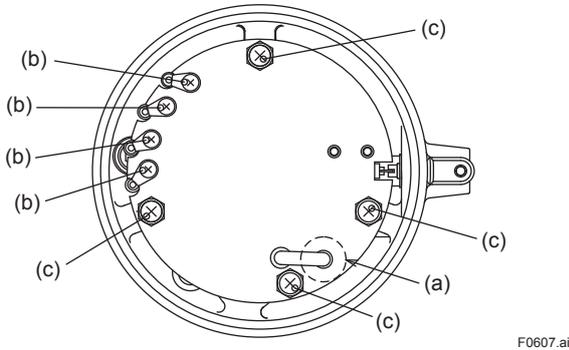

Figure 6.7 Pressure Sensor and Amplifier Set Screws
- (3) Pass the silicon tube through an amplifier hole and mount the amplifier directly so that the sleeve of the pressure sensor leads into the hole of the case.
- (4) Fasten the four set screws for fixing the amplifier (see Figure 6.7).
- (5) Connect the four wires in the order of yellow (ACT+), white (ACT-), red (IN+) and black (IN-).
- (6) Insert the silicon tube into the amplifier pressure sensor firmly.